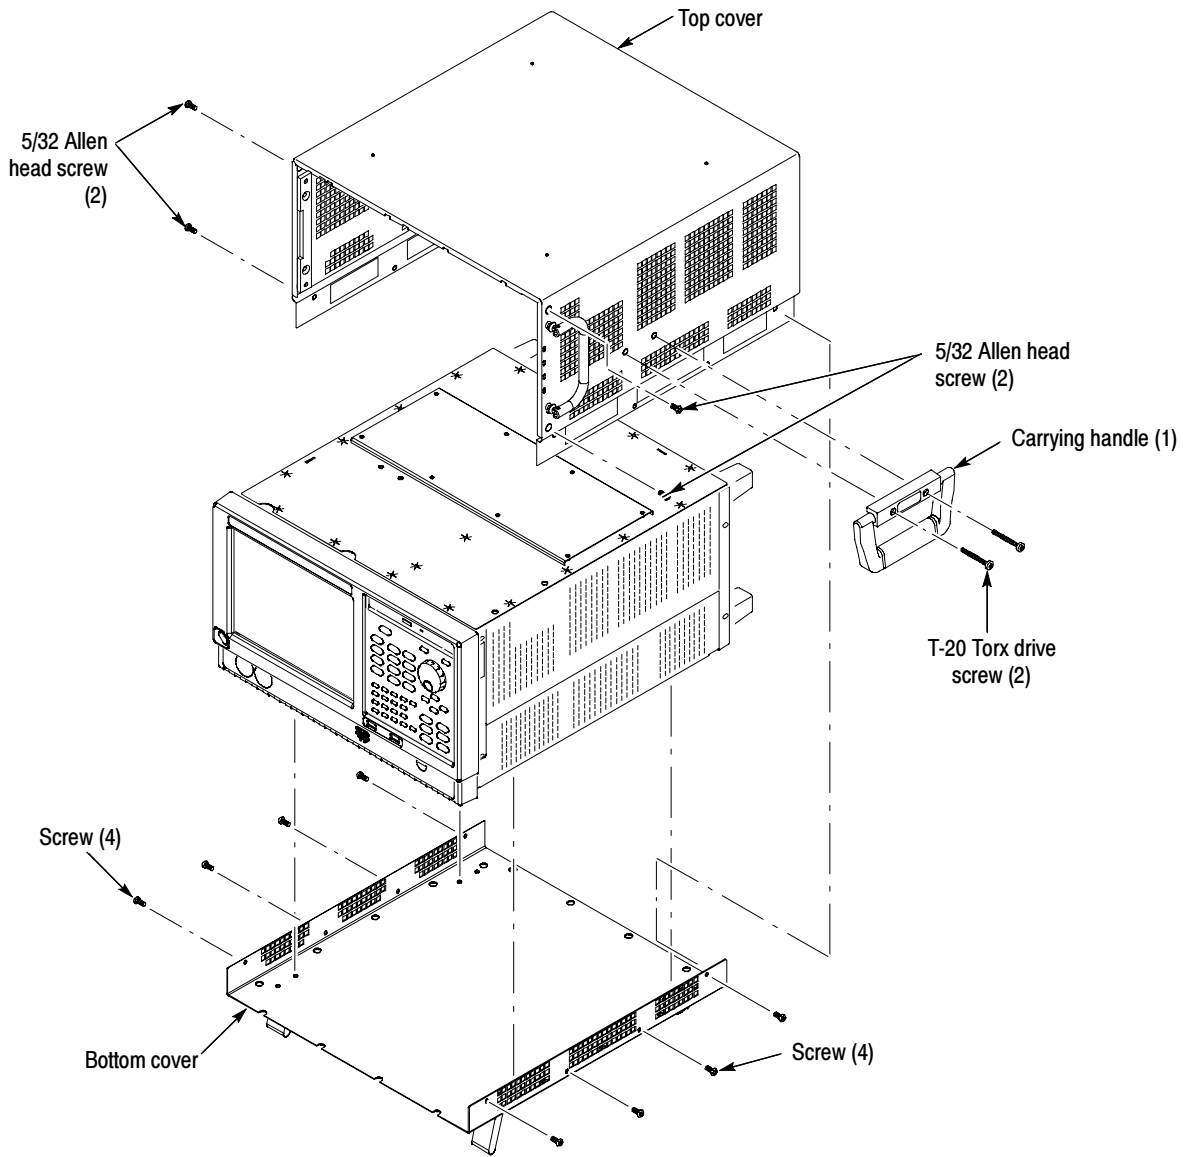

Figure 4: Strip instrument for conversion
3. Remove the two screws that secure the plastic carrying handle to the side of the instrument. (It is not necessary to remove the black metal handles.) See Figure 4.